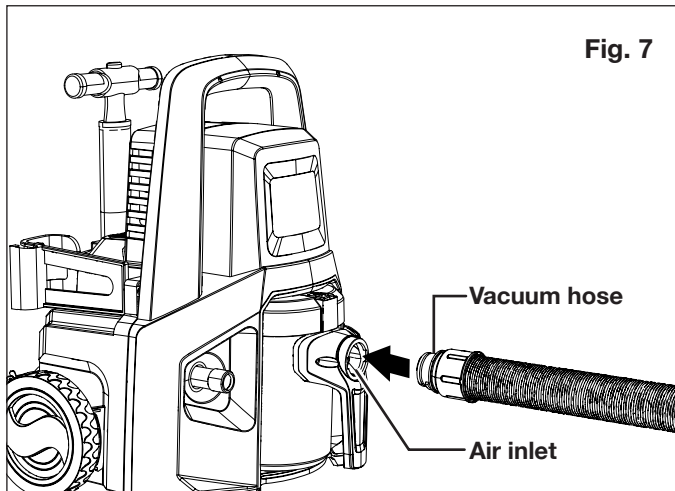

Fig. 7
1. To use the tool as a vacuum, insert the vacuum tube into the air inlet, and twist clockwise to secure (Fig. 7).
2. Make sure the vacuum hose is installed properly and locked securely in the air inlet (Fig. 7).